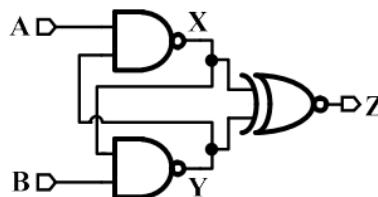

Fig. 6.13
9. In the circuit diagram shown below in Fig. 6.13, the logic gates operate with a supply voltage of 1V. NAND and XNOR have 200ps and 400ps input-to-output delay, respectively.